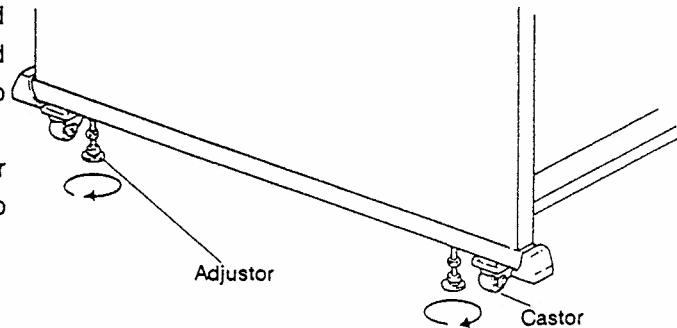

Fig. 5.1
- (1) After placing the table in the prescribed position, turn the adjustors mounted underneath the table to secure the table so that it will not move. (See Fig. 5.1)
- (2) Install the table on a level and stable floor so that it will not shake or rock from side to side.